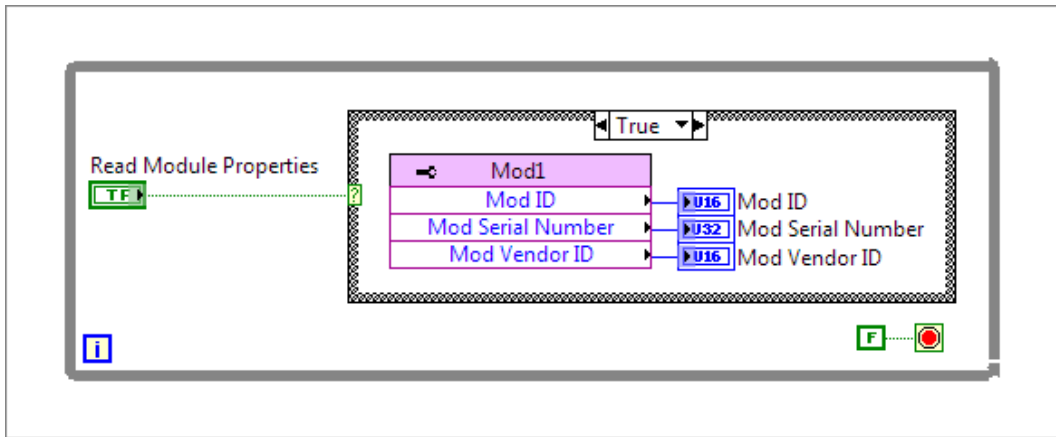

Fig. 7: FPGA I/O Property Nodes – Block diagram of an example FPGA VI
3. Select the Property *Mod ID*. Pull out the I/O node and add the Properties *Mod Serial Number* and *Mod Vendor ID* (see Figure 7). Create indicators for all I/Os. Move all items into a *True* case of a *Case Structure* which is defined by a *Boolean* control with *Latch when released* functionality. Finally, embrace all items with a *While* loop.